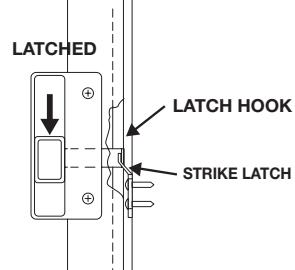

Fig. 8
- Attach strike latch to frame jamb and test latch engagement by sliding handle latch bar downward. (**Fig. 8**)